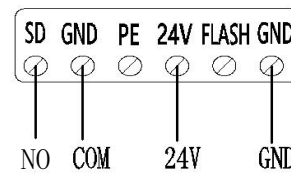

Fig.6
- The Green line(**NO**) and White line(**COM**) of Rcontact RF need to be connected with **SD** and **GND** of opener. (Fig6)
- The Red line(**24V**) and Black line(**GND**) of Rcontact RF need to be connected with **24V** and **GND** of opener. (Fig6)